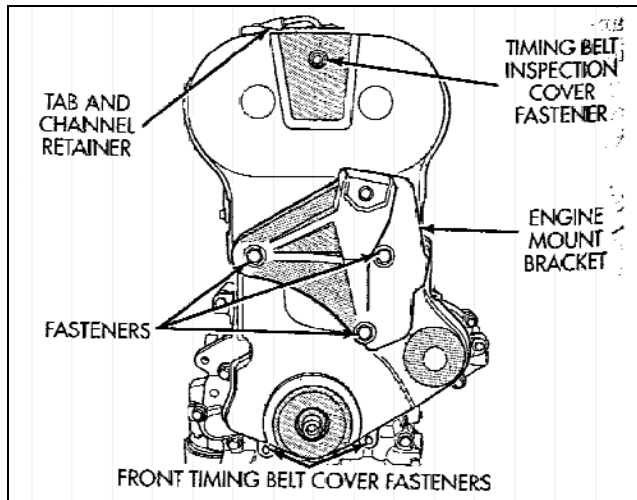

Fig 7 - Layout of front cover and bolts
- 8) Remove the front bracket plate. *See Figure 7*
- (1) Do not use pry bars against the rear of the pulley or against the front cover of the engine. Damage to the pulley or the front engine cover could result.
- 10) Remove the timing gear cover *See Figure 7*